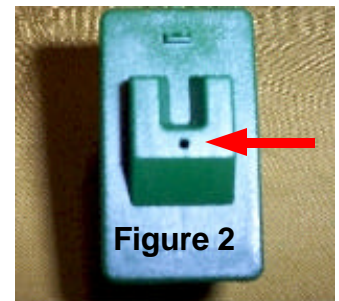

Figure 2
1. Place the cartridge in front of you as shown in figure 2 and use the hand drill to drill in the spot shown by the red arrow. The surface of the plastic is very thin and you need only penetrate about 1/4" to widen the hole.